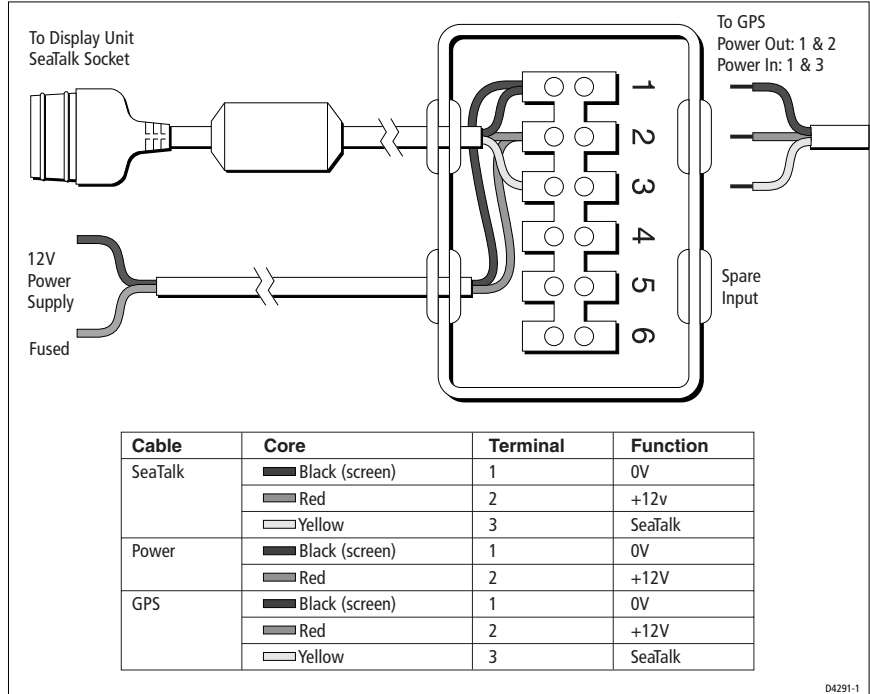

Figure 8-19: Using the Auxiliary Junction Box
*Figure 8-19* shows how to connect the junction box; *Appendix B* provides connection details for specific GPS and Beacon Receiver systems.